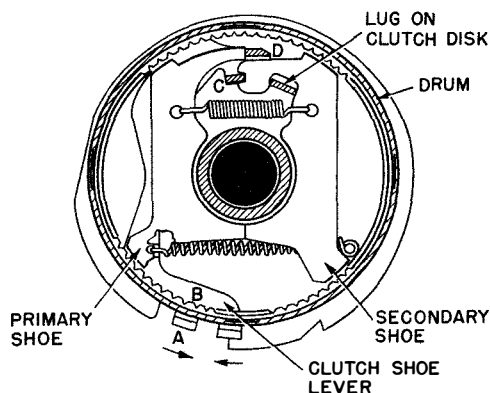
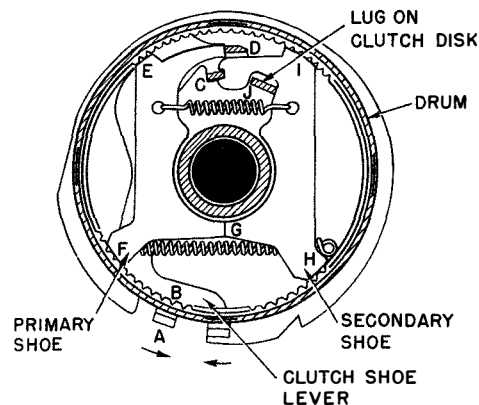

Figure 2-48. Clutch Disengaged
Figure 2-49. Clutch Engaged
2. CLUTCH ASSEMBLY.—The clutch is disengaged by moving the lower end of the clutch shoe lever (B) toward the lug on the clutch cam disk. The upper end of the lever contains two ears (C and D) which pivot as the lever is moved and allow the spring to pull the clutch shoes together and out of contact with the drum (see figure 2-48).
The clutch is engaged by releasing the lower end of the clutch shoe lever (see figure 2-49). When the lever is released, its upper end is pivoted about its ear (C). The ear (C) bears against the upper end of the secondary shoe and moves the shoe ear (D) which, in turn, bears against the upper end of the primary shoe. This action forces the primary shoe into contact with the drum at point E. As the drum rotates counterclockwise, it drives the primary shoe downward, so that it again makes contact with the drum at point F. This further pushes the primary shoe, causing it to move into contact with the secondary shoe at point G., thus forcing the secondary shoe into the drum at point H. The revolving drum contacts the secondary shoe and drives it upward in contact again with the drum at point I. Since the forces involved are multiplied at each of the preceding steps, the final force developed at point I is very great. This force is applied to the lug (J) which is an integral part of the clutch cam disk, thus the disk and drum rotate together. The cam disk is keyed to the cam sleeve assembly and the clutch drum is connected to the drive shaft. When the clutch is disengaged, the drive shaft is free to turn on the inside of the clutch sleeve. (See figure 2-48.)